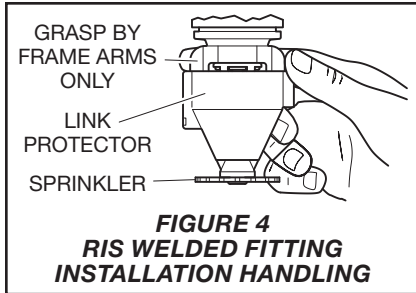
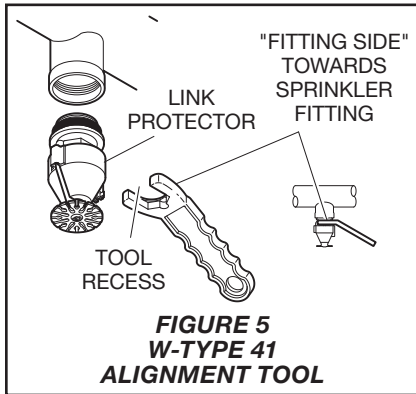
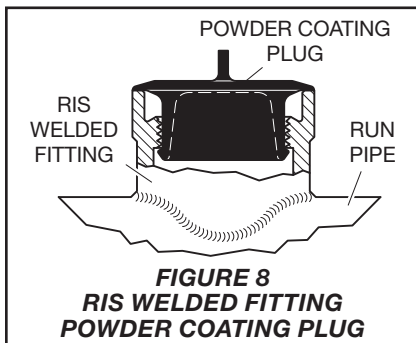
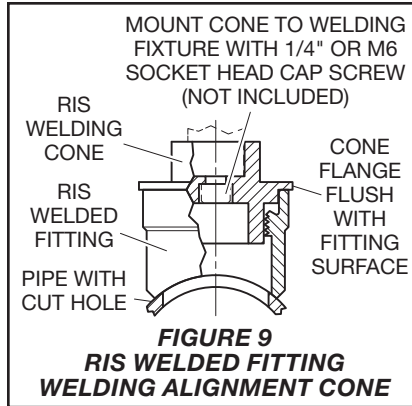

FIGURE 4
FIGURE 5
FIGURE 8
FIGURE 9
- To avoid damaging the fusible link assembly during installation, ensure the factory-assembled link protector remains attached to the sprinkler, and handle the sprinkler by the frame arms only as shown in Figure 4. Use only the appropriate sprinkler alignment tool as shown in Figure 5.
- Align the RIS fitting and pipe during automatic welding practices with a RIS fitting welding alignment cone as shown in Figure 9.
- As finishing processes can vary, when planning painting or powder coating pipe with RIS welded fittings installed, it is recommended that operators use their own established best methods to protect critical fitting areas such as the mating surface and interior features. One option is to use the separately ordered powder coating plug, see Figure 8. The plug is made from silicone rubber formulated for a maximum temperature
(Optional) Use the alignment tool as shown in Figure 5 for more leverage.
| 03-23 | Page 5, Installation section, end of General Instructions sub-section, added finishing process bullet point recommending use of separately ordered powder coating plug; Installation section, Installing the Sprinkler sub-section, relocated demonstration video QR code to end of procedure, formerly on page 6 as Figure 4; Page 6, updated Figure numbers; Added Figure 8, RIS welded fitting powder coating plug application; Added Figure 9, RIS welded fitting welding alignment cone application; Ordering Procedure, added RIS Welded Fitting Powder Coating Plug sub-section. |